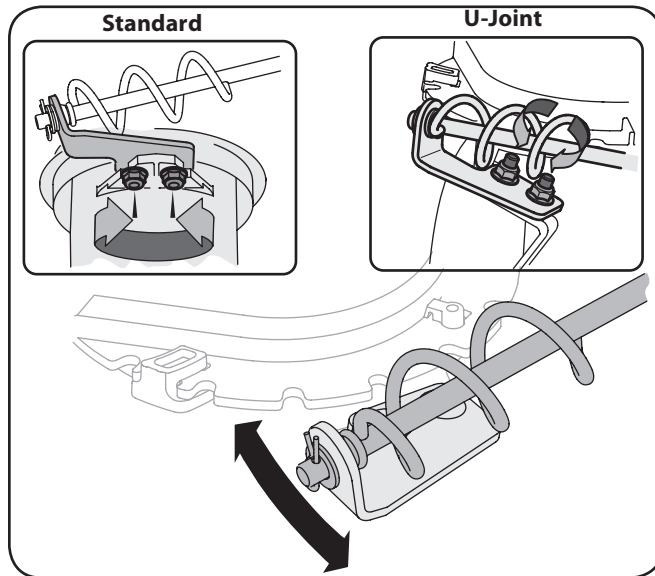

Figure 6-6
1. Loosen the two nuts which secure the chute bracket and reposition it slightly. See Figure 6-6.